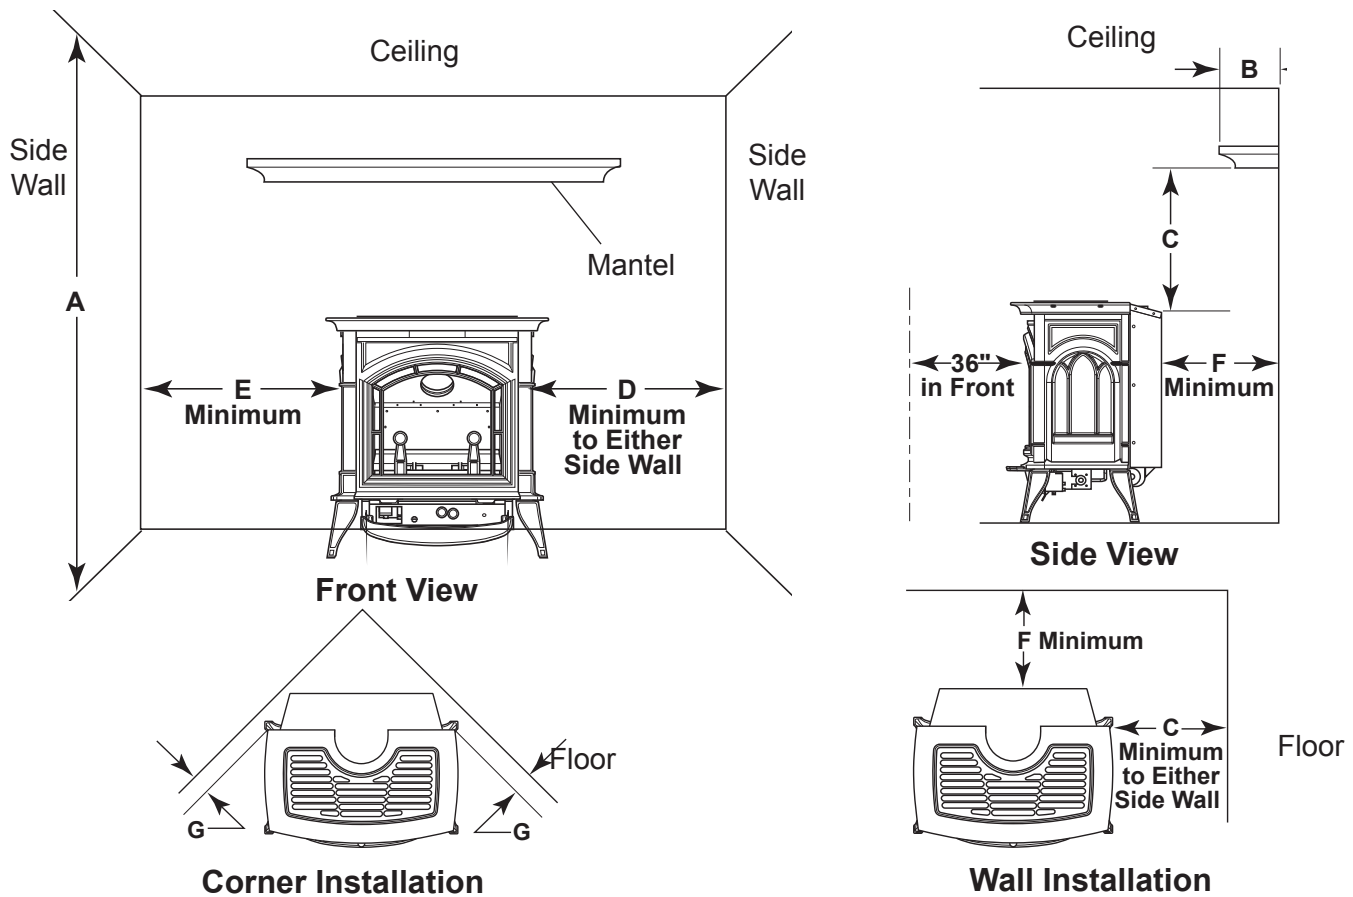

Figure 4 - Minimum Clearance to Walls and Ceiling
- Minimum clearances to combustibles, side-wall, ceiling, woodwork, and windows **must be maintained**. See *Figure 4, page 9*.
The dimensions shown in *Figures 4 and 5* are minimum clearances to maintain in installing this heater. Left and right clearances are determined when facing the front of the heater.